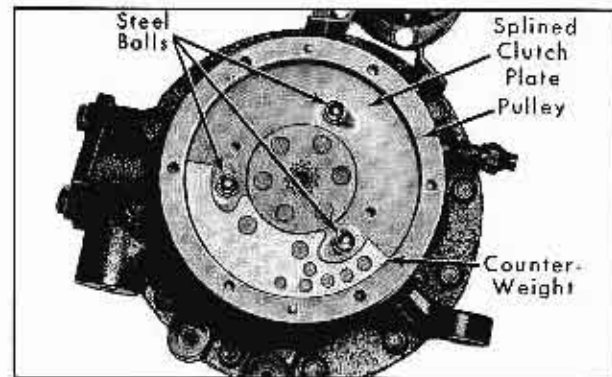

Fig. 16A-21 Splined Clutch Plate - Installed
4. Install pulley housing snap ring on compressor shaft, using Tool No. J-4880. Fig. 16A-18. This ring should be installed with the concave side out.